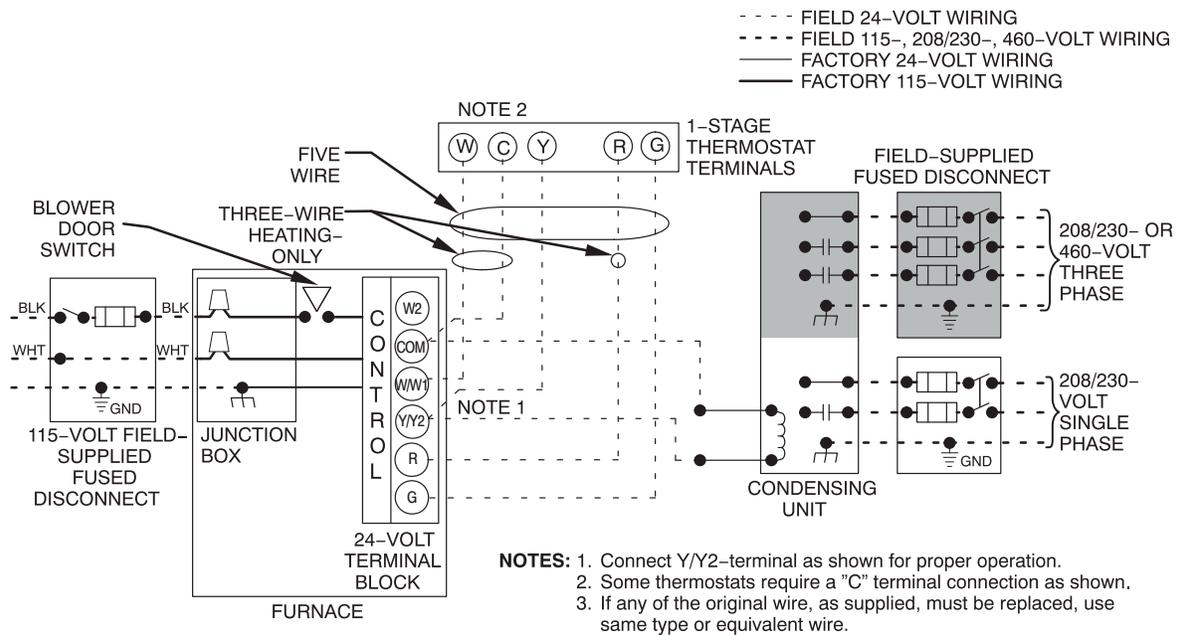

Fig. 35 - Typical Two-Stage Field Wiring Diagram
7. Connect field power and neutral leads to furnace power leads as shown in Fig. 35.
6. Connect power cord power and neutral leads to furnace power leads as shown in Fig. 35.
5. Connect field power and neutral leads to furnace power leads. as shown in Fig. 35.
Make field 24-v connections at the 24-v terminal strip. See Fig. 36. Connect terminal Y/Y2 as shown in Fig. 35 for proper cooling operation. Use only AWG No. 18, color-coded, copper thermostat wire.